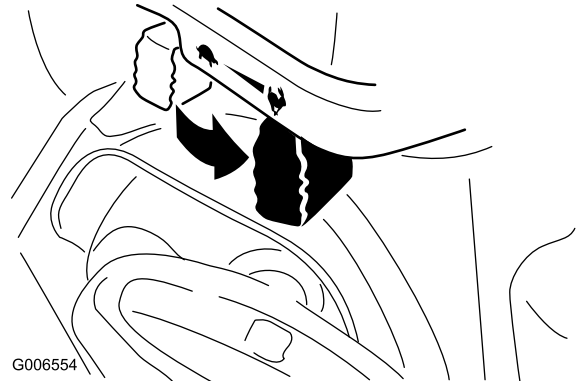

Figure 32
6. Move the throttle to the Fast position (Figure 32).